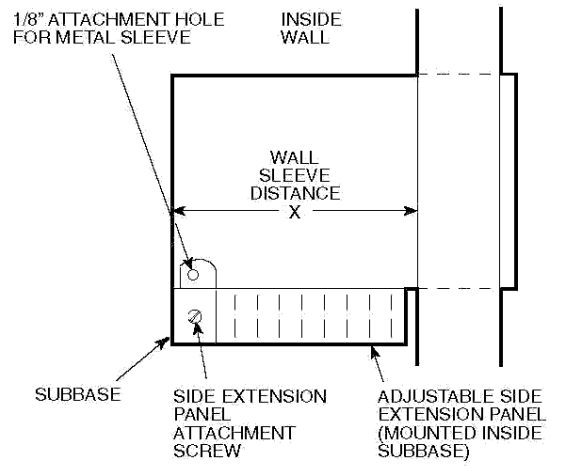

Fig. 3 - Attaching Adjustable Side Extensions to Subbase
Step 2 (Optional) — Adjustable Side Extension Panels can be attached to cover open space left between subbase and wall. Determine the distance from inside wall to front of wall sleeve. See Fig. 3, dimension X.